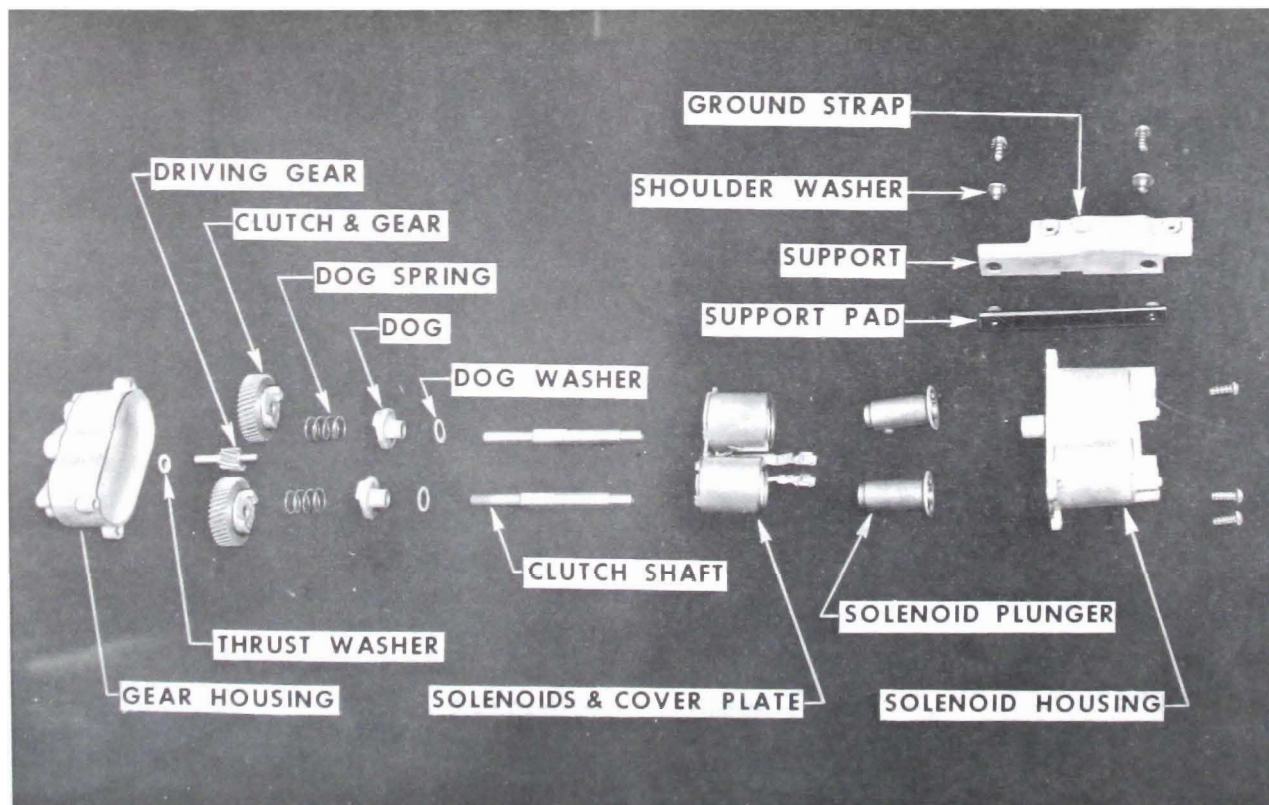

Figure 5-5—Four-Way Transmission - Disassembled
2. Remove screw securing ground strap to solenoid housing and screws securing transmission support to gear and solenoid housing (Figure 5-5).
3. Remove screws securing gear and solenoid housings together; then, carefully separate housings and remove component parts of transmission assembly (Figure 5-5).